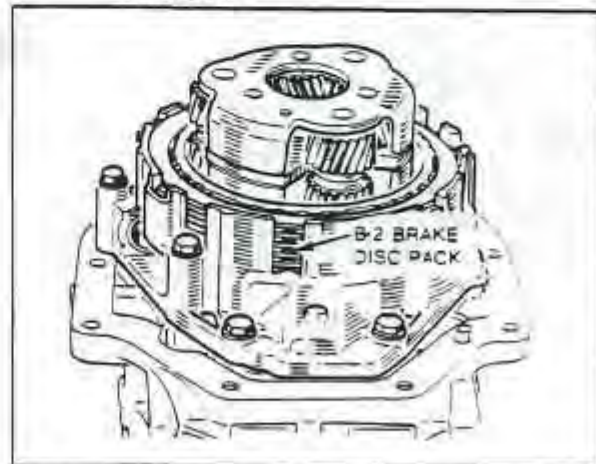

Fig. 37 BRAKE B-2 DISC PACK
14. Remove the steel discs, lined discs and adjusting shim(s) from brake B2 housing. *Fig. 37*